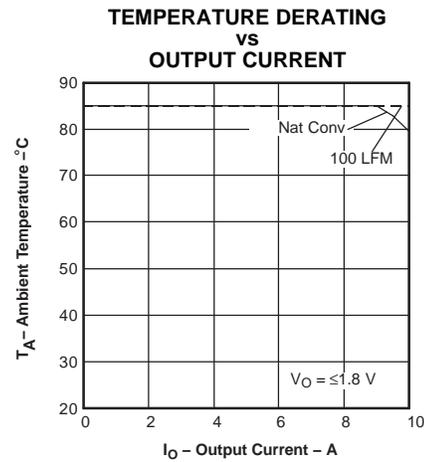

Figure 8.
- (2) SOA graphs represent the conditions at which internal components are at or below the manufacturer's maximum operating temperatures. Derating limits apply to modules soldered directly to a 4 in 14 in, double-sided PCB with 1 oz copper. For surface mount products (AS and AZ suffix), multiple vias (plated through holes) are required to add thermal paths around the power pins. Please refer to the mechanical specification for more information. Applies to Figure 8.